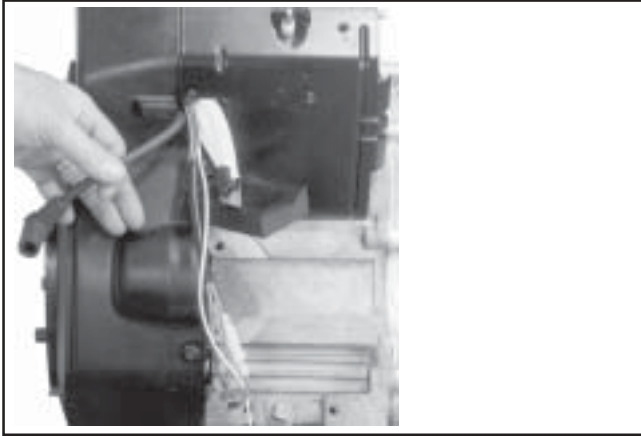

Figure 11-63. Routing Wiring Harness and Leads.
3. Position the outer baffles and loosely start the mounting screws. The two M6 screws go into the back of the cylinders. The short M5 screws go into the lower holes closest to the blower housing. The short screw on the oil filter side is also used to mount the wire harness clip. Be sure any wire harnesses or leads are routed out through the proper offsets or notches, so they will not be pinched between the blower housing and baffles. See Figure 11-63.